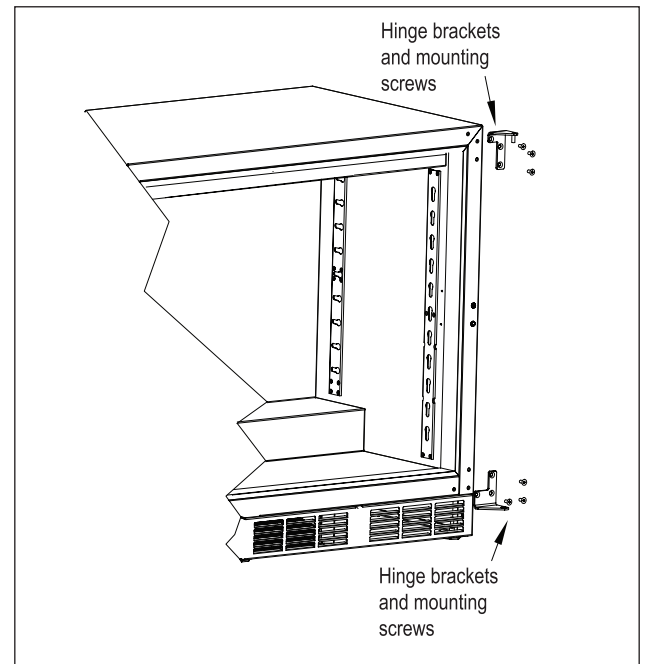

Figure 9. Hinge Installation
5). Using the screws removed in step 3, install the top and bottom hinge brackets from the kit (Fig. 9).